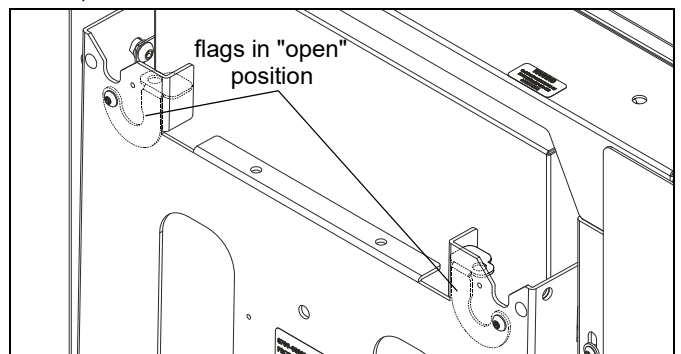

Figure 32
2. Make sure latching flags are in "open" position. (See Figure 32)